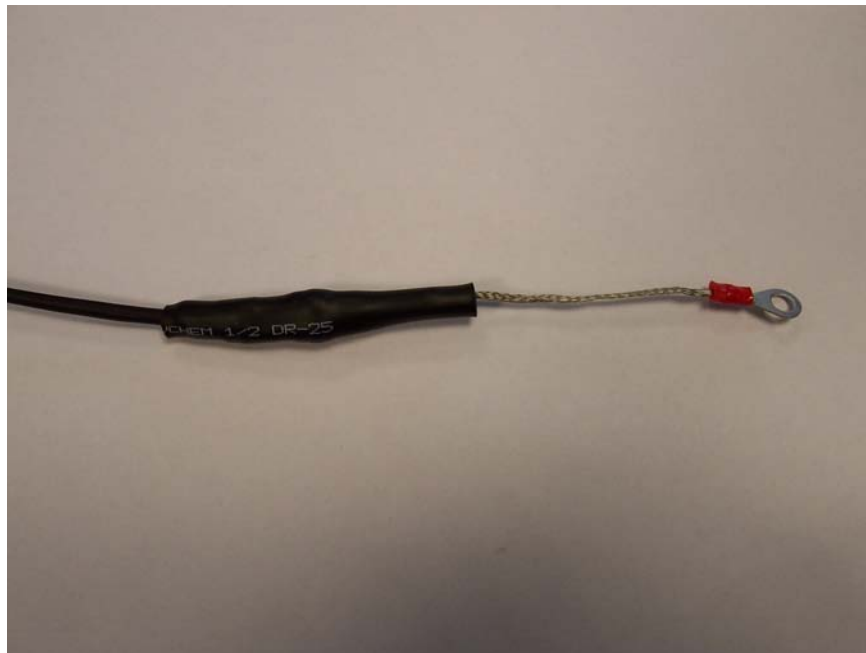

Fig. 3 – Finished Assembly
4. Wrap the isolated wire ends and part of the loom but not the shielding in 02-9150-52171R1 DR25 heat shrink tubing 1/2, 80mm and heat-shrink it. See Fig. 3 for an illustration of the finished repair.